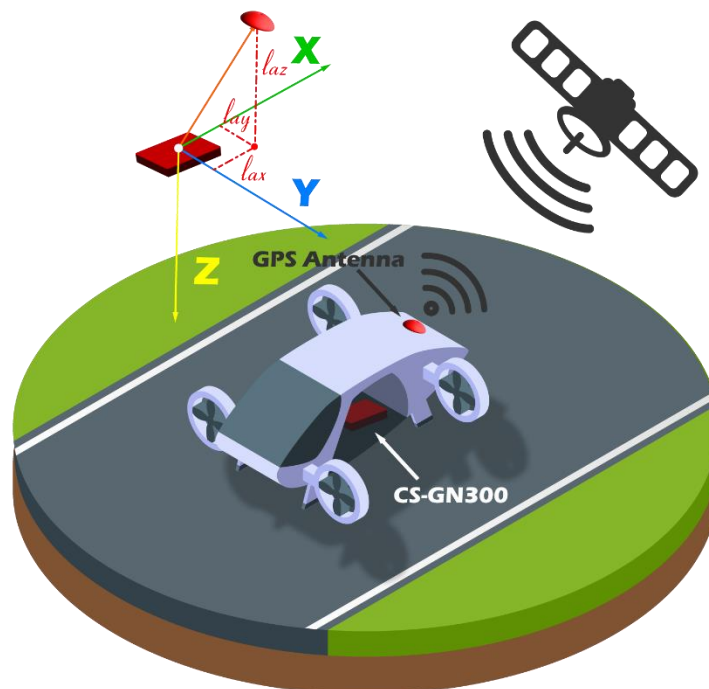

Figure 2. Example GNSS antenna lever-arm scenario
3. Proximity to other radio frequency (RF) transmission sources (e.g. telemetry radio) can negatively impact the GNSS signal-to-noise ratio.
4. If the separation between the GNSS antenna and the CS-GN300 sensor is significant (e.g. > 0.5 m), the GNSS antenna offset, also known as the GNSS lever arm, should be configured using the GNSS lever-arm command (table 9). This involves defining the vector between the CS-GN300 sensor and the GNSS antenna, expressed in the sensor coordinate frame, as shown in Figure 2. In this example scenario, the GNSS antenna offset is  $l_{ax}$ ,  $l_{ay}$ , and  $l_{az}$  (here  $l_{az}$  is a negative number). The command `$nGLA, $l_{ax}$ , $l_{ay}$ , $l_{az}$ *<cr>` can be used to configure the GNSS lever arm.